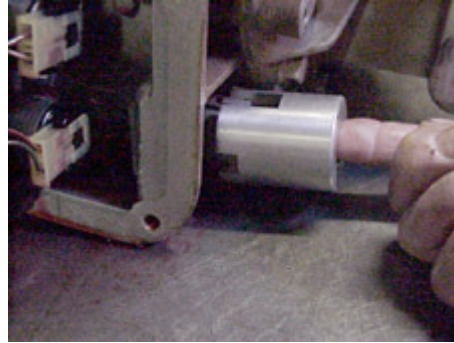

Figure 3: Case connector removal with appropriate tool
- 6) Next you will need to remove the internal wiring harness connector from the transmission case. The internal connector protrudes through the back of the transmission case. The connector will need to be pushed from the outside of the case to the inside. There are two methods to remove the connector from the case. The preferred method is to use the appropriate tool to compress the locking pins while pushing the connector to the inside of the transmission (Figure 3).